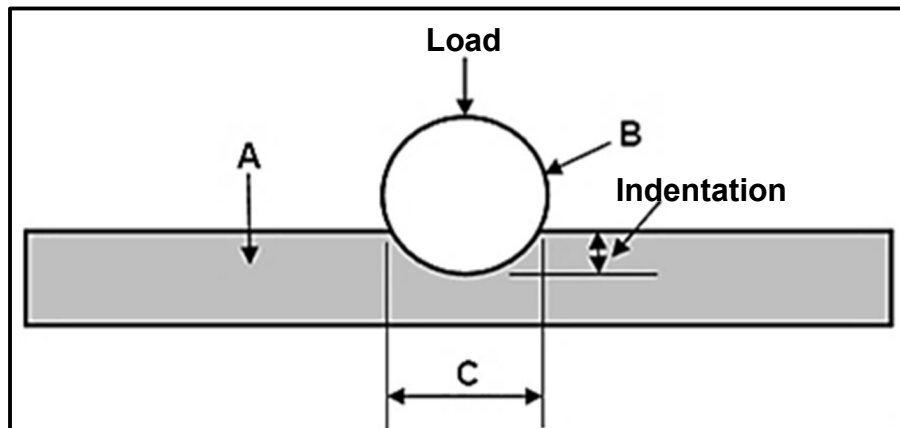

FIGURE 6.8
6.8 FIGURE 6.8 below shows a diagram of a Brinell hardness tester. Label A – C.